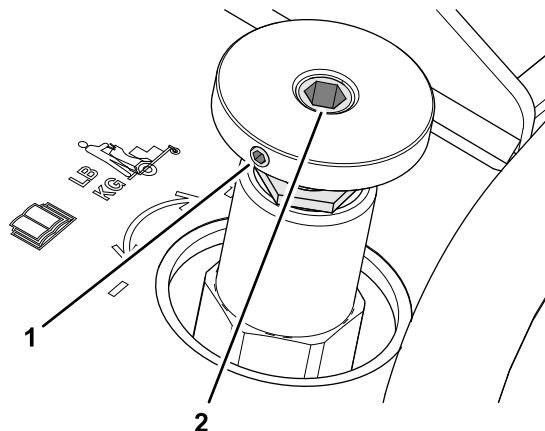

Figure 57
1. Loosen the setscrew in the knob for the weight control valve; refer to Figure 57 in Adjusting the Operator Weight Control Valve (page 45).
Note: Do not twist the knob while removing it. If you need help maintaining the position of the control-valve shaft, use a hex key in the hex socket of the shaft to hold the align; refer to Figure 57 in Adjusting the Operator Weight Control Valve (page 45).